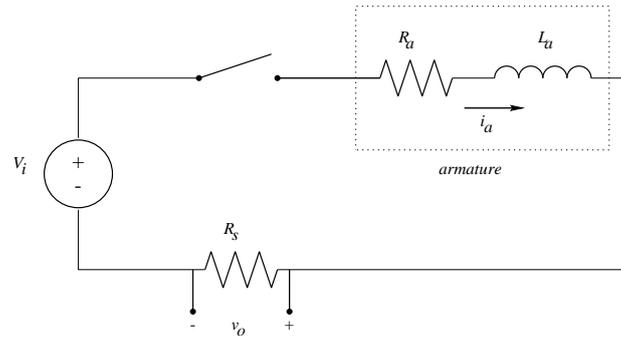

Figure 4.4: Motor Electrical Diagram with flywheel clamped.
- (a) The DC motor, with the flywheel clamped ( $\omega = 0$ ), is described by the electrical schematic of Figure 4.4.